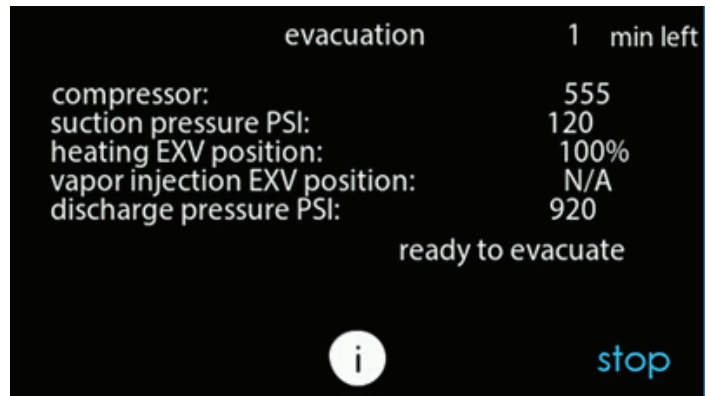

Fig. 24 – Evacuation Status Screen
5. Begin evacuation or refrigerant recovery as required for the procedure after UI indicates the EXV is open. Power may be removed from outdoor unit after the UI indicates "READY TO EVACUATE." See Fig. 24.